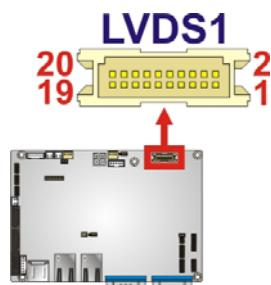

Figure 3-7: LVDS Connector Location
**CN Location:** See Figure 3-7